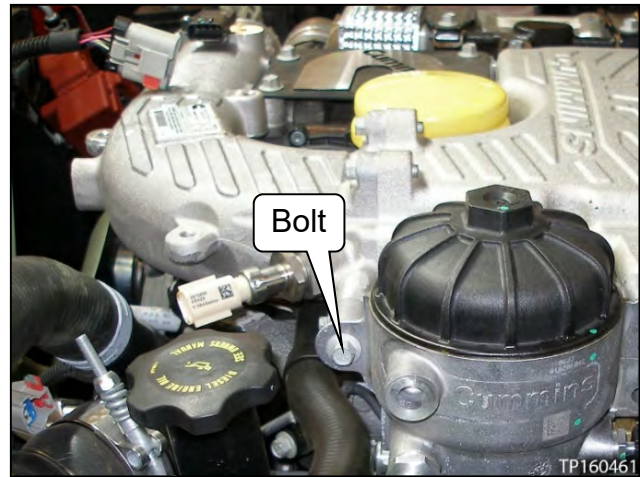

Figure 28
- e. Remove the last stage 2 fuel filter assembly bolt (see Figure 28).